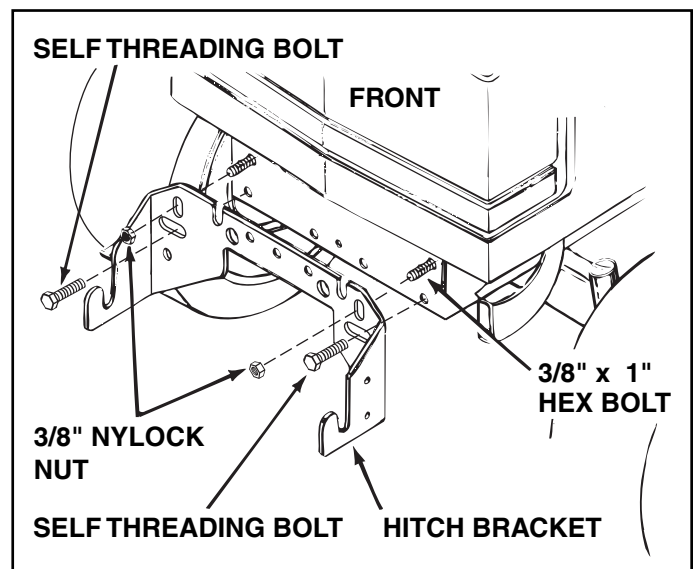

FIGURE 8
- Remove two self threading bolts (if present) from front cross-member of tractor. Assemble bolts through lower slots in hitch bracket, then reinstall them back into front crossmember. (Make sure notches at top of hitch bracket and crossmember are aligned.) See figure 8.
- From behind tractor's front crossmember, insert two 3/8" x 1" hex bolts through holes in crossmember (shown in figure 8) and through upper slots in hitch bracket. Secure with two 3/8" nylock hex nuts.